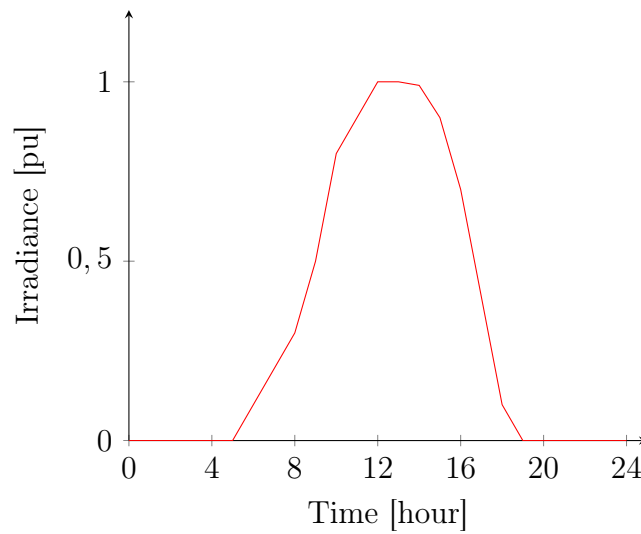

Figure 4: Daily irradiance curve
- *yearly* or *daily* or *duty*: yearly, daily or duty irradiance curves, respectively. These curves are defined in *pu* of the value defined in the *irradiance* property. To define this curve in OpenDSS, Figure 4, you must use the *LoadShape* object, as shown below.